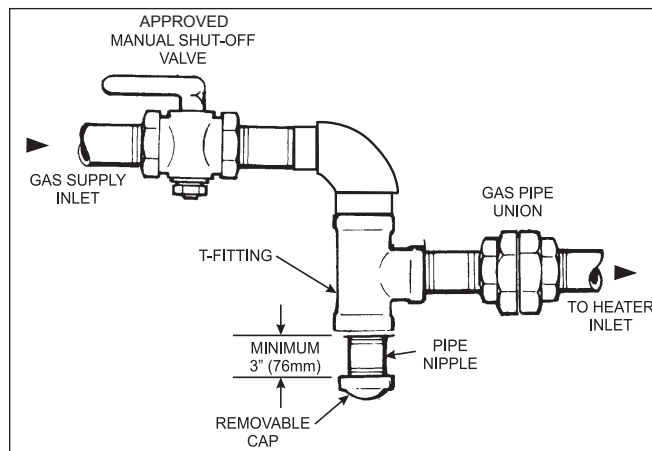

Figure 6. Proper Design for a Sediment Trap/Drip Leg
- Install a sediment trap (drip leg) ahead of the gas controls (see Figure 6). Fit the trap with a threaded cap which can be removed for cleaning.